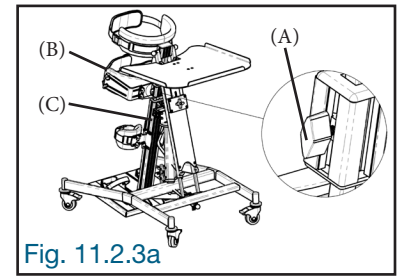

Fig. 11.2.3a
Slightly loosen the locking knob (A) on each side of the hip pad block (B), adjust the hip pad (B) height on the frame (C), and firmly tighten the locking knobs (A) (Fig. 11.2.3a).